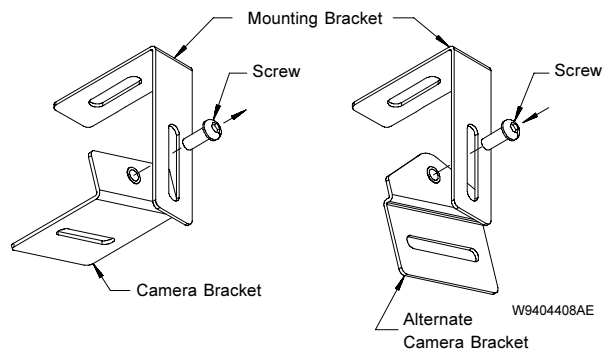

Figure 5: Alternate Camera Mount
- If the installation requires that the camera be mounted horizontally to a wall, remove the camera bracket from the mounting system and install the alternate camera bracket provided in the hardware kit. See figure 5.